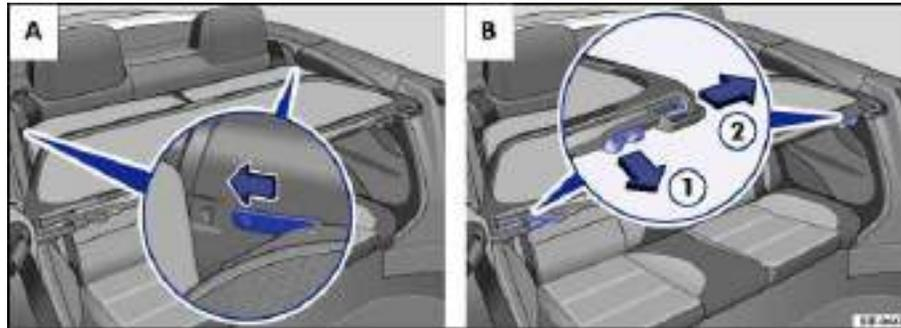

Fig. 33 A. Push tabs (spacers) on wind blocker into slots. B. Align and engage the spring-loaded locking pins.
- Gently insert the tabs on the back of the wind blocker into the slots (next to the rear seat backrests) until they latch ⇒ fig. 33 A (inset).
- Pull the handle **B** in the direction of arrow (1) and then slide the locking pin in the direction of arrow (2) into the retainer.